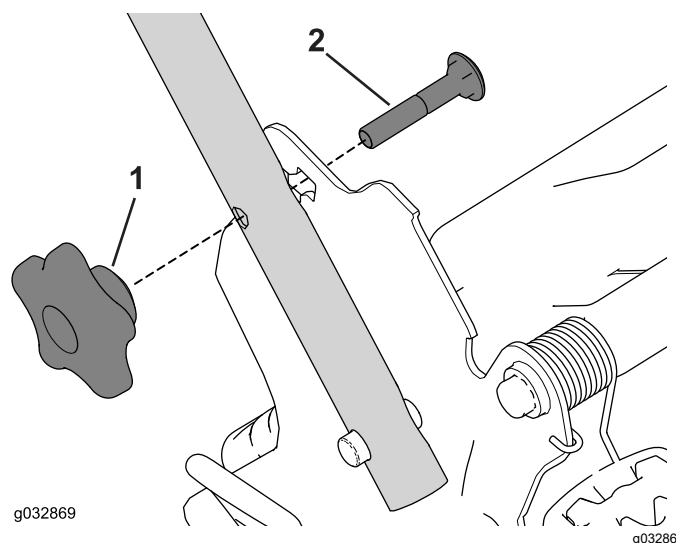

Figure 26
1. Remove and save the 2 handle knobs and 2 carriage bolts from the handle brackets (Figure 26).